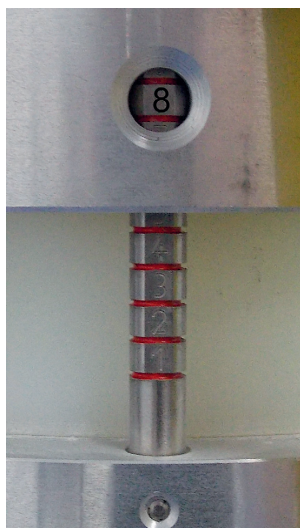

Fig. 12
- Make sure that there is an adequate clamping path remaining at the clamping unit, before the stroke reaches the stop. Once the FRIALEN TL saddle fitting has been clamped free of gaps, a maximum clamping figure of 9 (of 10) must be visible in the housing's inspection glass **(10)** (see Fig. 12). If necessary, stop the process, and retighten at the star wheel **(4)**.